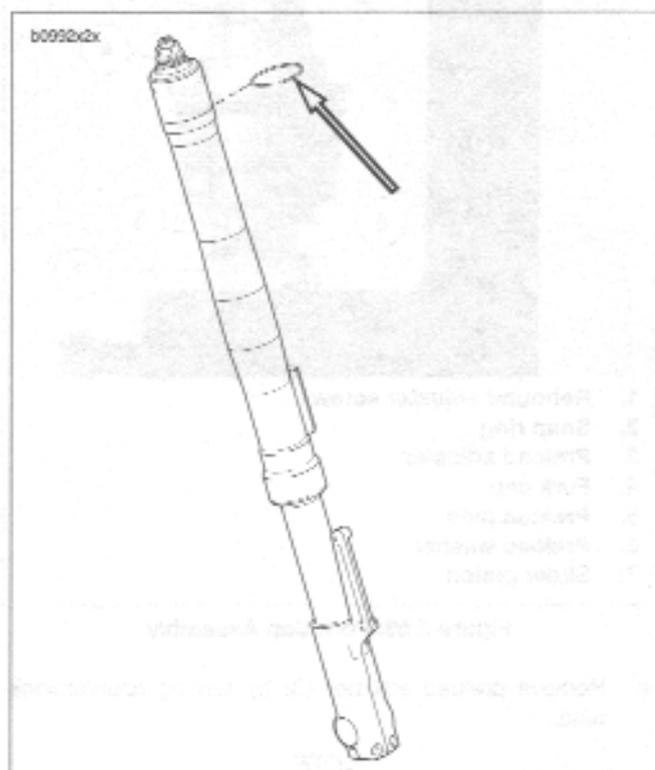

Figure 2-57. Stopper Ring
5. See Figure 2-57. Remove fork from upper fork clamp and slide the stopper ring up and over the top of the fork.